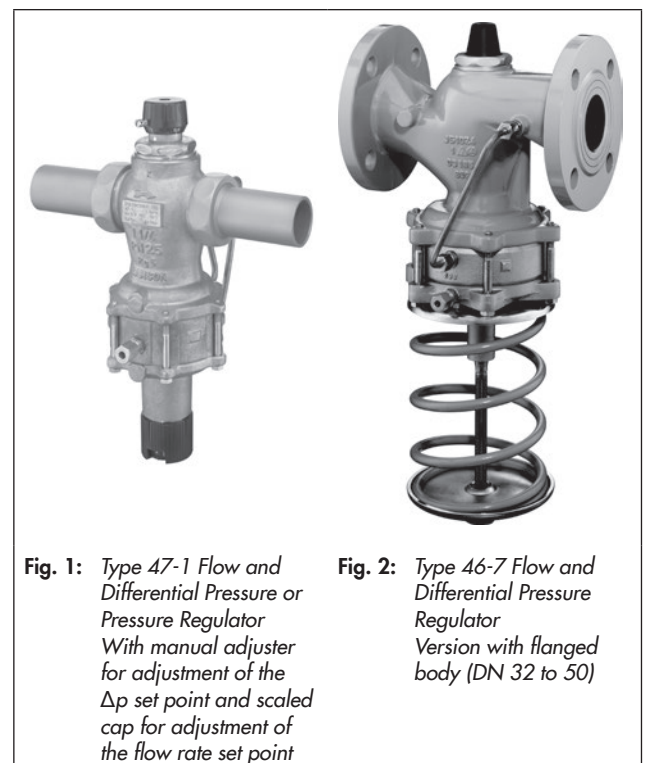

Fig. 1: Type 47-1 Flow and Differential Pressure or Pressure Regulator
- **Type 47-1** (Fig. 1) · With adjustable flow rate and differential pressure or pressure set point
- With external scaled cap for adjustment of the flow rate set point (see Fig. 1) · DN 15 to 25 only